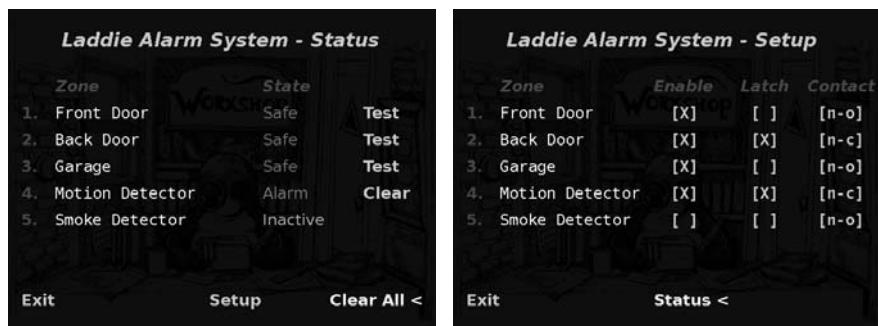
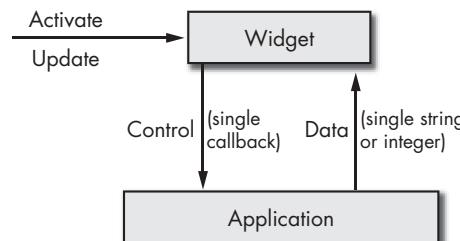

Figure 11-10: The Laddie framebuffer UI
Figure 11-11: An STBmenu widget
**NOTE** *It’s important that the framebuffer isn’t running, because it would interfere with our current example. Incidentally, if the framebuffer UI didn’t start automatically when you booted the CD, you may have problems with your framebuffer. In this case, see Appendix C for help. The framebuffer UI display is shown in Figure 11-10.*
The Laddie framebuffer UI consists of two pages, as illustrated in Figure 11-10. We will discuss remote control in the next chapter; for now, use the arrow keys to navigate the UI and the `ENTER` key to activate a selection. Use the `Setup` and `Status` buttons to switch between pages. As you make changes, use `CTRL-ALT-F1` to switch to a command prompt and check the results with the `cli` utility described in Chapter 9. Make changes using the `cli` utility, and confirm these by returning to the framebuffer UI with `CTRL-ALT-F7`. (Alternatively, you could use another machine on the network to check results using the web interface described in Chapter 8.)
The Status page, shown on the left of Figure 11-10, contains 25 visible widgets. Eight of these are static displays (the title, the column headings, and the zone numbers); five present variable text (the zone descriptions); five display the state of the alarm; and the remaining seven are buttons. (The background screen is not a widget.) Figure 11-11 illustrates the relationships between an STBmenu widget, a user, and the underlying application.